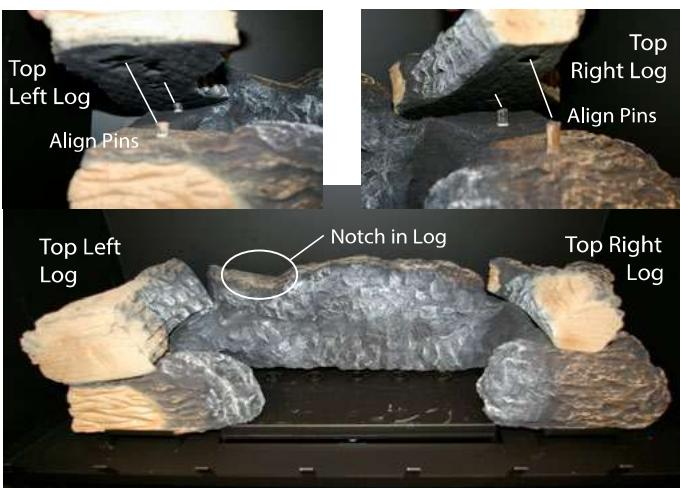

Figure 10c. Top Left / Right Log.
Step 4. Place the Top Right log as shown in **figure 10c**. using the (4) four alignment pins protruding from the top of the Right and Left Bottom Logs, as shown in **figure 10c**. With these pins align the Top Right and Left logs using the predetermined alignment holes cast into the underside of the logs, as shown above, **figure 10d**.
Step 5. Place the Centre Front log , **Figure 10d** below, as shown using the notch cast in the Bottom Rear log as shown in **figure 10c** above.